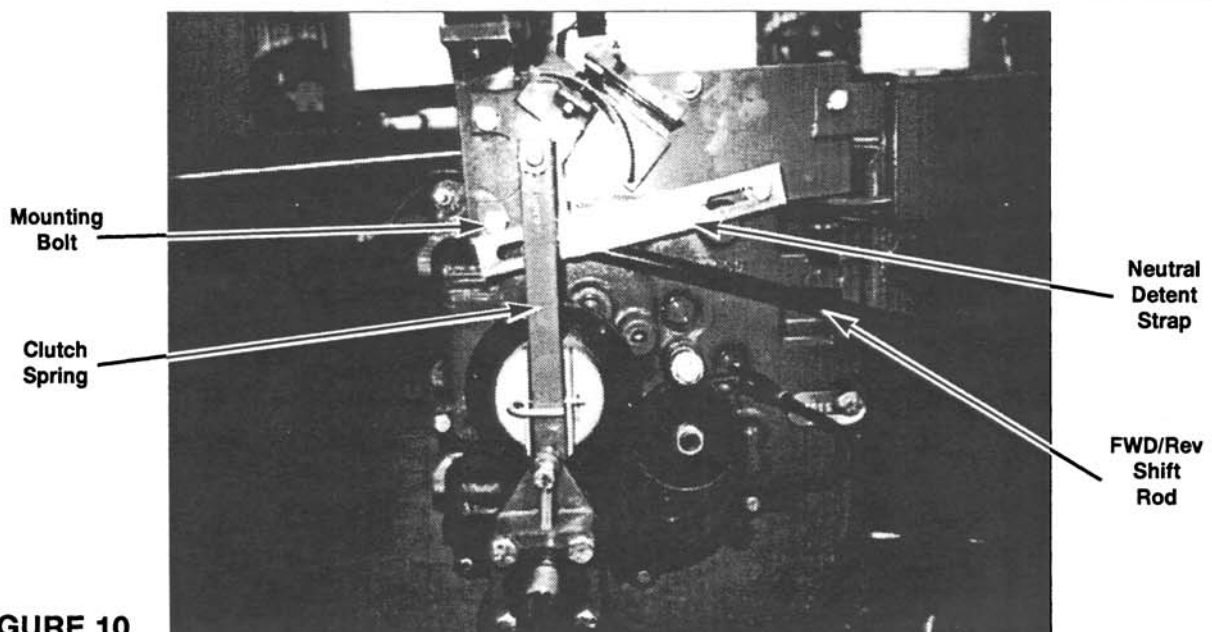

FIGURE 10
8. Remove forward and reverse clutch springs. See Figure 10.
9. Disconnect the Fwd/Rev shifter rod from the Fwd/Rev clutch roll arm. Disconnect the neutral detent strap and neutral detent spring. See Figure 10.
10. Remove the left and right side, lower forward-reverse mounting plate bolts. See Figure 10.